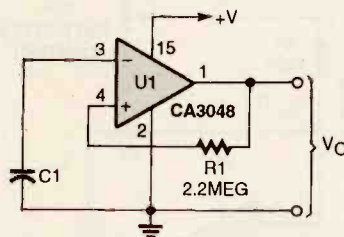

Fig. 8. An operational transconductance amplifier, square-wave generator circuit looks much simpler than it sounds.
**Linear IC Generators.** Several types of linear integrated circuits can be used to make square waves. The simplest of those is the operational transconductance amplifier (OTA). The only components in the simple circuit shown in Fig. 8 are a CA3048 OTA, a feedback resistor (R1), and a timing capacitor (C1). The output frequency is approximately given by: